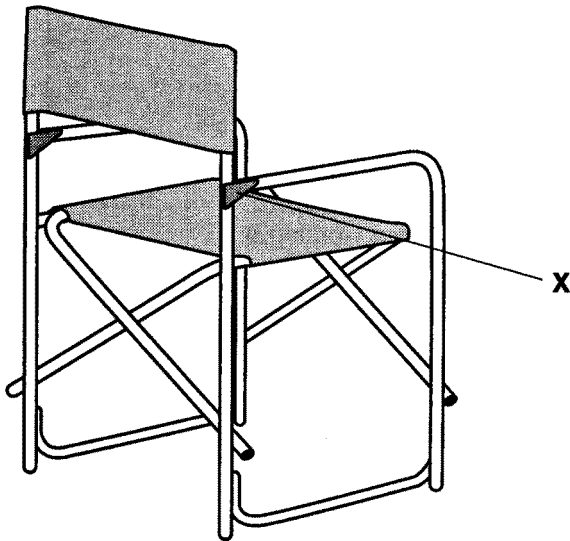
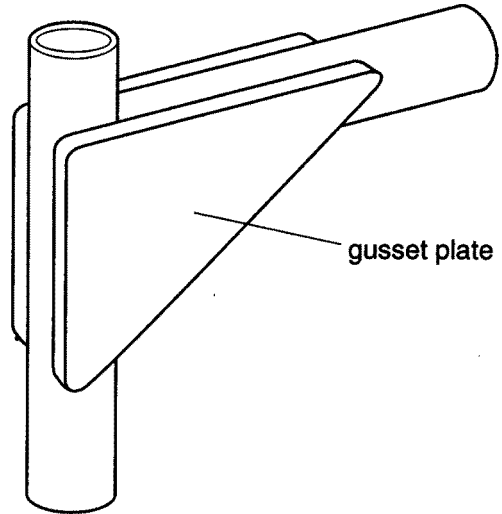

Fig. 9
Fig. 10
- 4 Fig. 9 shows a folding chair. Parts of the chair frame are made from tubing, and are joined and strengthened with a gusset plate at X, details of which are shown in Fig. 10.